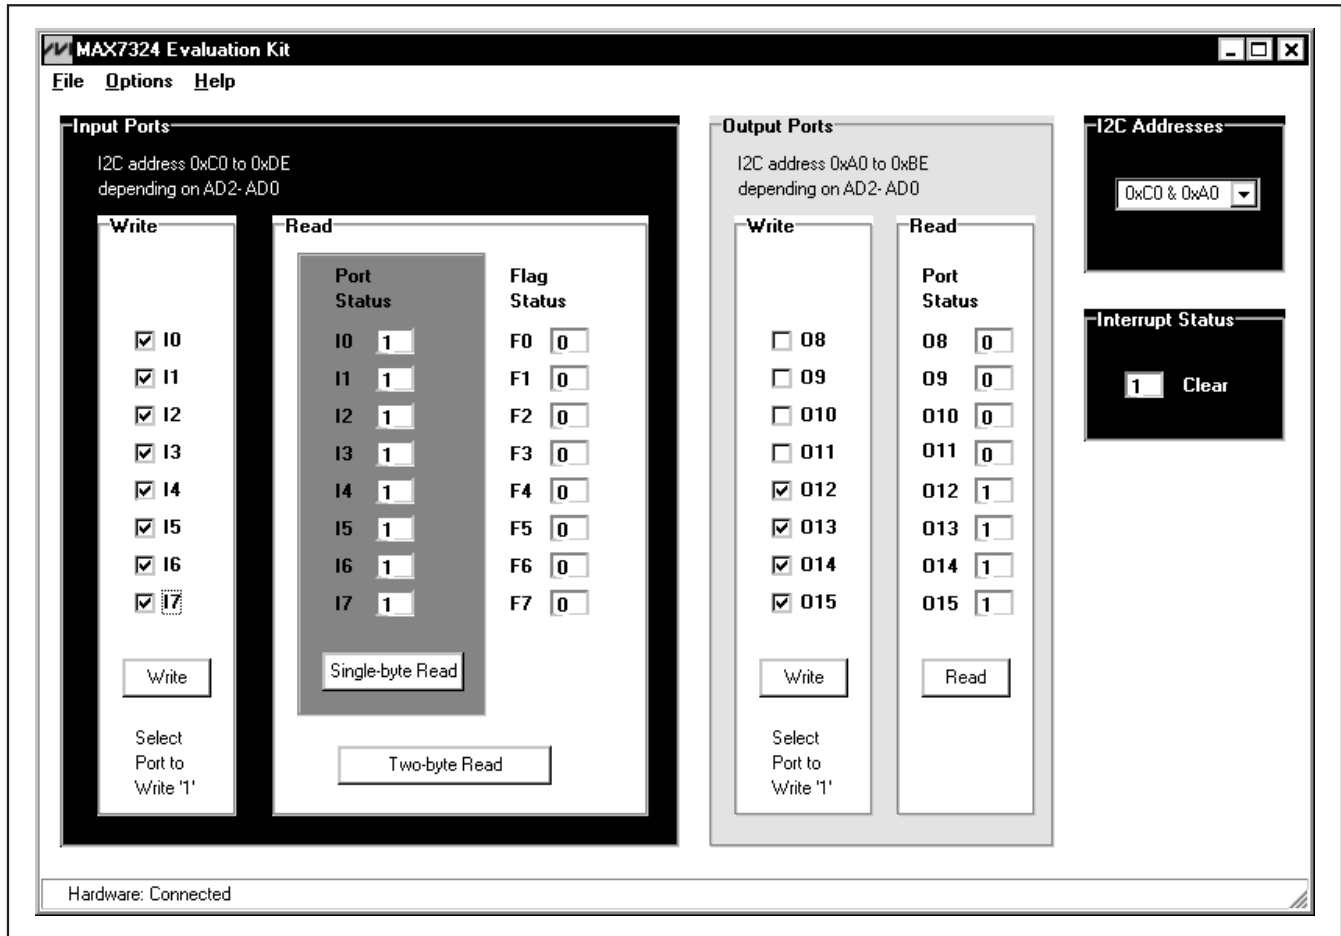

Figure 1. MAX7324 Evaluation Software Main Window
- Start the MAX7324 EV kit software by opening its icon in the **Start** menu. The GUI main window will appear, as shown in Figure 1.
To start the MAX7324 EV kit software, double click the MAX7324 EV kit icon that is created during installation. The GUI main window appears, as shown in Figure 1.
The **Input Ports** group box shown in Figure 1 contains the **Write** group box and the **Read** group box. The **Read** group box consists of two sections: **Port Status** and **Flag Status**.